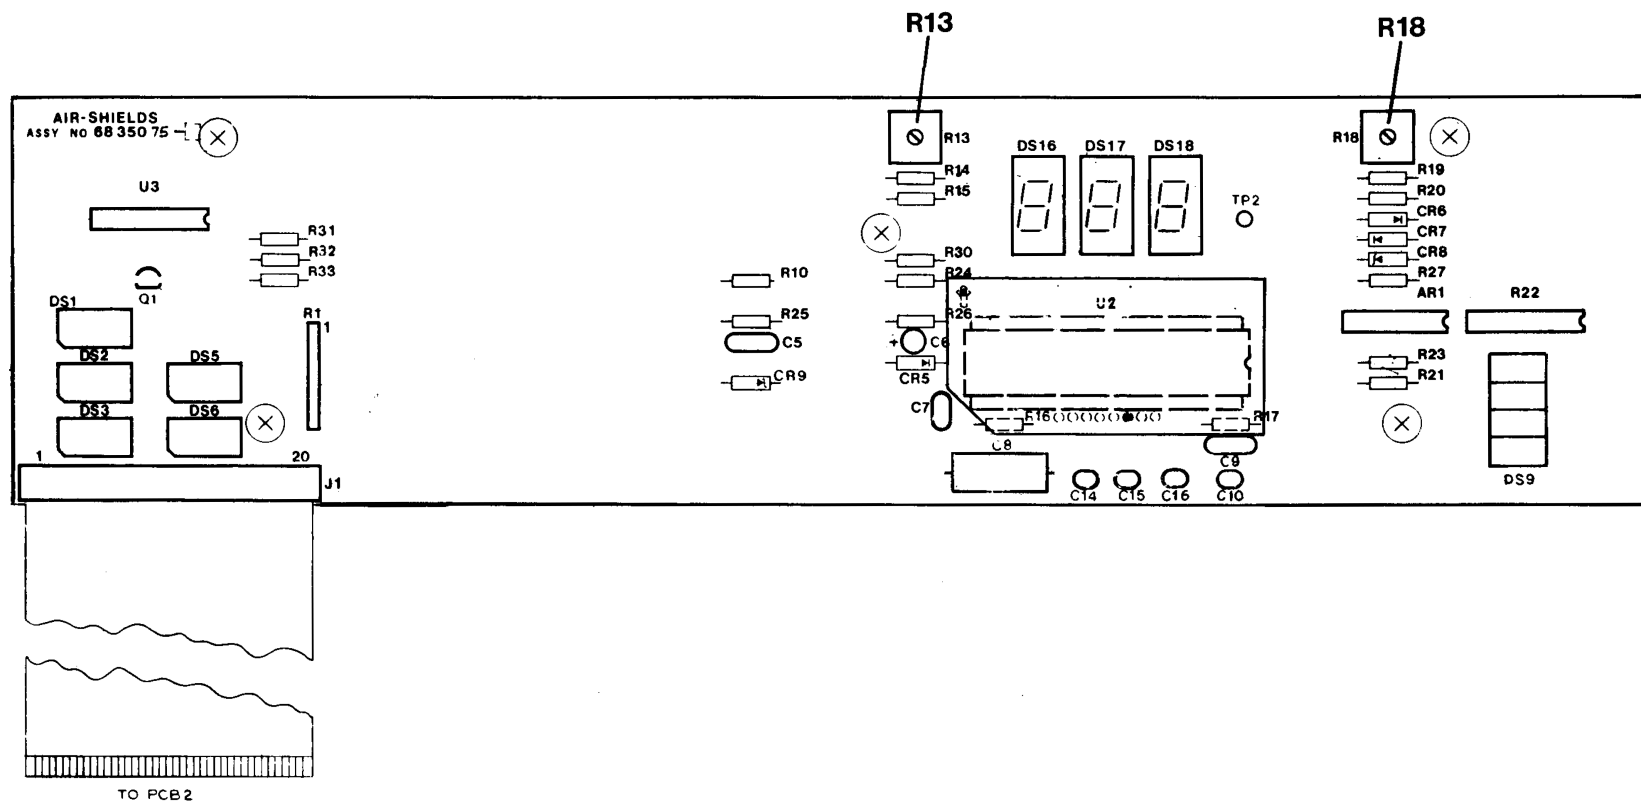

FIGURE 5.4 PCB1 (MODEL C200), LOCATION OF TEST POINTS AND ADJUSTMENTS
2. Connect the Simulator to the AUXILIARY PROBE jack on the Side Panel. Set the Simulator to 36°C . Set the Simulator to AIR mode. Refer to Figure 5.4 for location of test points and adjustments.